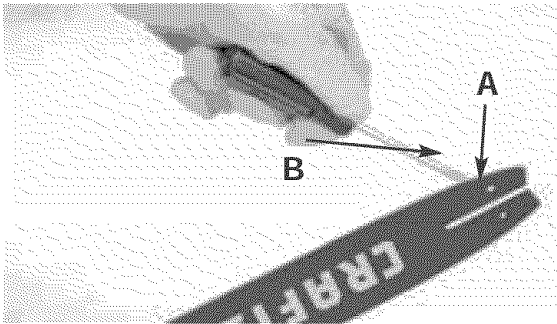

Fig. 38
BAR GROOVES (B) Bar grooves (or rails which support and carry the chain) should be cleaned if saw has been used heavily or if saw chain appears dirty. Rails should always be cleaned every time saw chain is removed. (fig. 38)
OIL PASSAGES (A) Oil passages on the bar should be cleaned to ensure proper lubrication of the bar and chain during operation. This can be done using a soft wire small enough to insert into the oil discharge hole. (fig. 38)